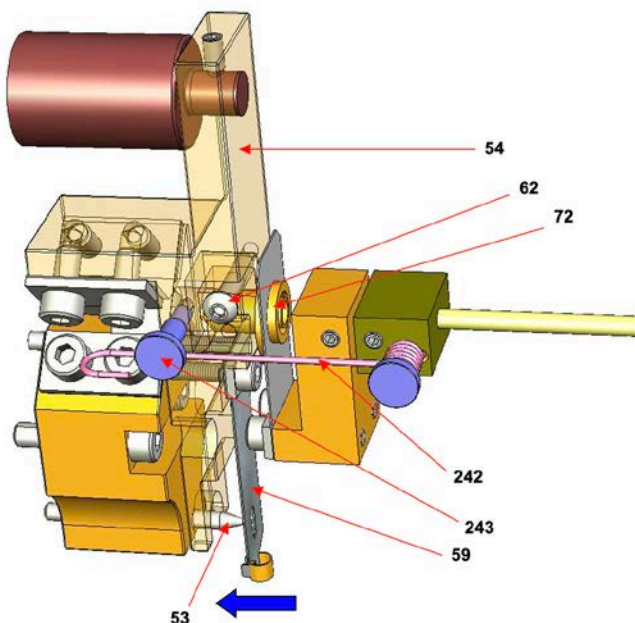

Figure 16
- d. Look through the side orifice and verify that the screw (62) coupling end of the beam (54) is loose and that the spring arm (242) is disengaged from the pin (243). Through the 3/4 " NPT hole at the bottom of the case, push the flexure (59) from left to right with your finger to verify it is possible to move the beam (54). The value displayed should vary accordingly. **Pin (72) must rotate freely inside the coupling end of the beam.**
- e. Look at the mechanism through the lateral orifice, and index the oval hole of the flexure towards the special conical ended pin (53) by bending the flexure (59) toward the case front (see Figure 16). The value read on the LCD must be between -5% and +5%.